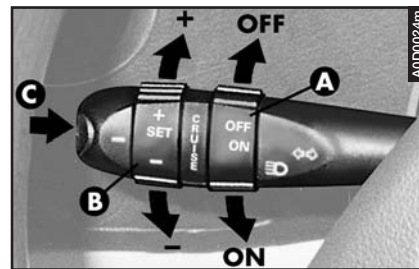

fig. 78
CONTROLS (fig. 78)
Should the device not be working properly or fail to operate, move the switch (A-fig. 78) to the OFF Position and contact Authorized Alfa Romeo Services after checking that the protection fuse is intact.
The switch (A-fig. 78) may be left constantly at ON without damaging the device. You are however advised to deactivate the device when not in use, moving the switch (A) to OFF, to avoid accidentally memorising the speed.